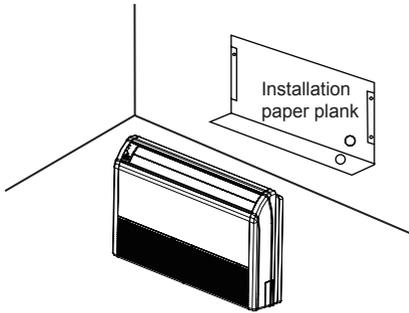

Fig.2
- (1). Determine the mounting position on ceiling or wall by using paper pattern to indicate indoor frame. Mark the pattern and pull out the paper pattern.(Refer to Fig.2)
- (2). Remove the return grill, the side panel and the hanger bracket from the indoor unit as per procedure bellow.